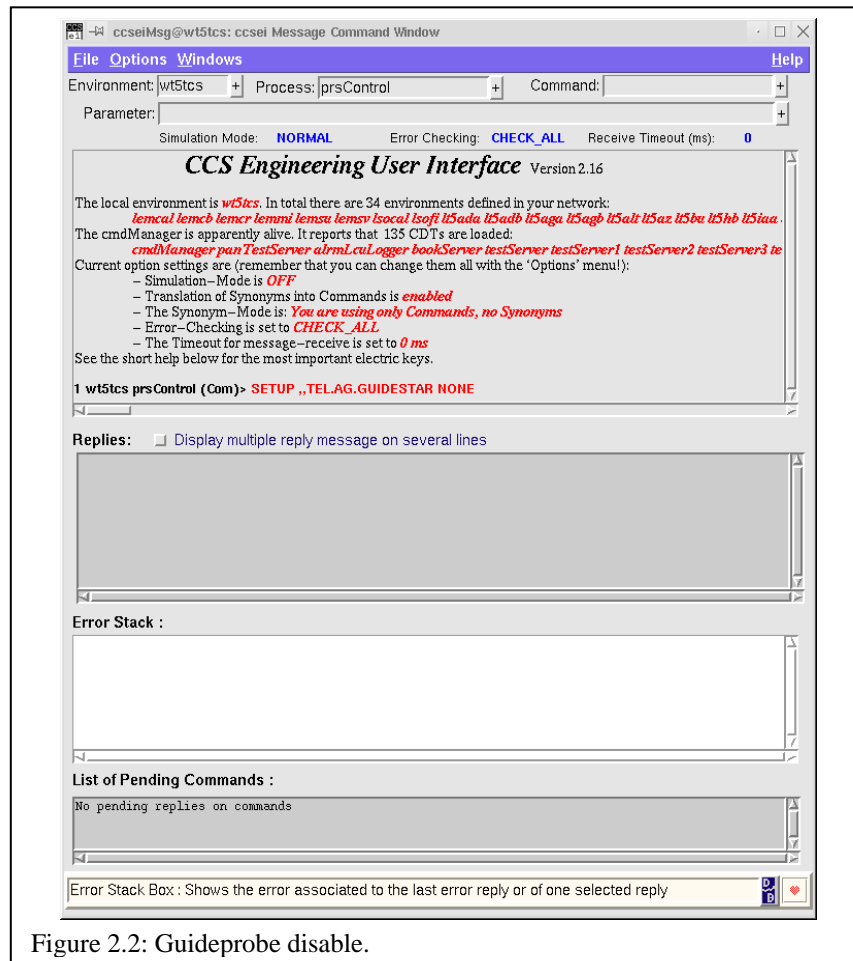

Figure 2.2: Guideprobe disable.
2. Disable the autoguider in order to avoid guide probe movement. To do this, call `ccseiMsg` program, then select: (Figure 2.2):